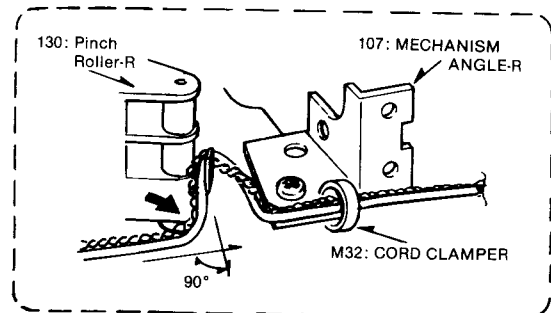

Fig. 2
3. Trace the record/playback head lead-wire as follows (Refer to Fig. 2.):
- At this time, hook the head wire to the clamber of the pinch roller R, and press the head wire in the direction of the arrow as shown in Fig. 2 so that it is bent approximately 90 degrees. Then secure the wire on the mechanism unit using a cord clamber.